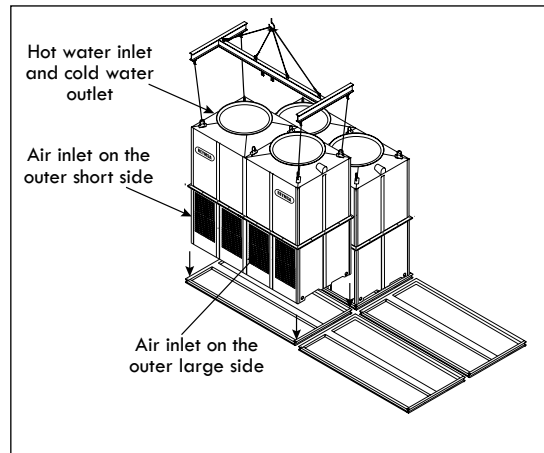

Figure A-76: X-Orientation - Second T2 module lifting and installation (RTM or RTPM Models)
- C. Lift the second module and place it on top of the isolation pad and the steel structure, making sure that the side without air inlets is facing inward, parallel to the long side of the first module, and that the water inlet and outlet are facing outward. Secure it with the galvanized steel nut and bolts sets (supplied by others) as shown on Figure A-76.